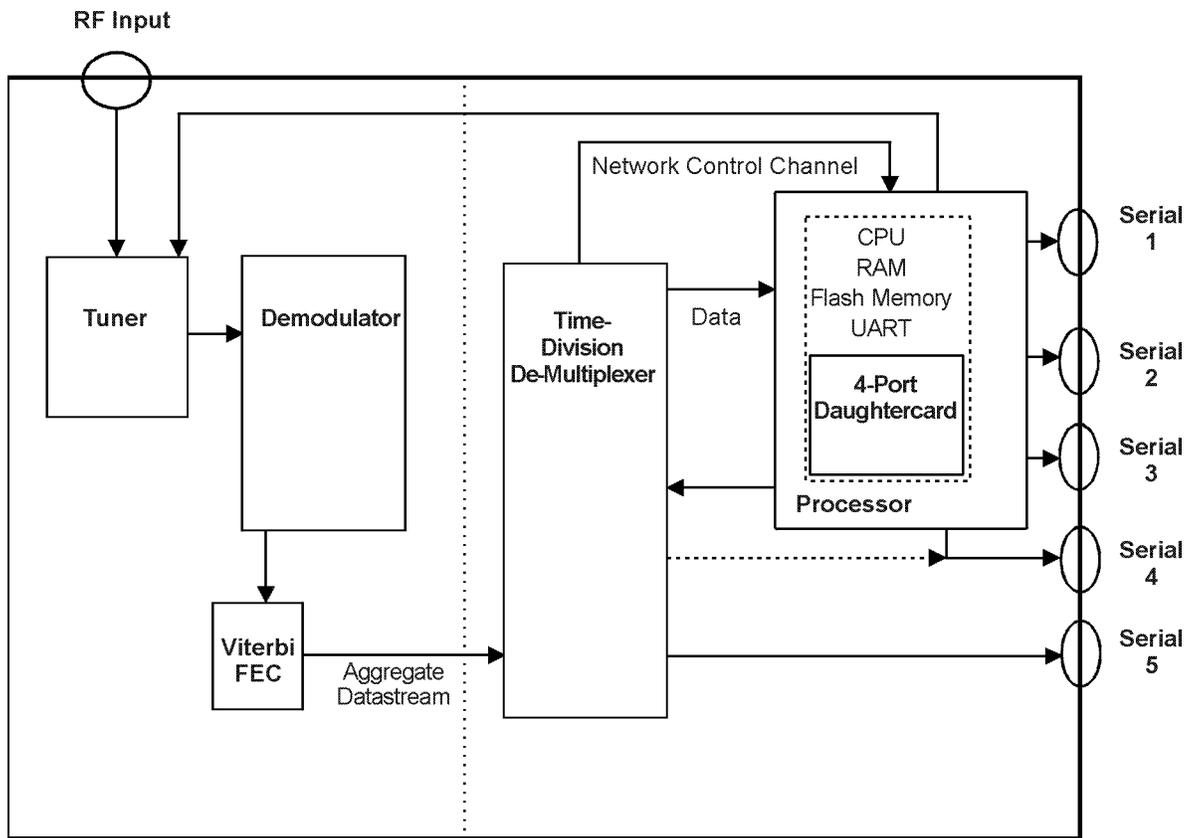

Figure 5-5. Four-Port Daughtercard Model
- The 4-port daughtercard (Figure 5-5) provides four additional serial ports